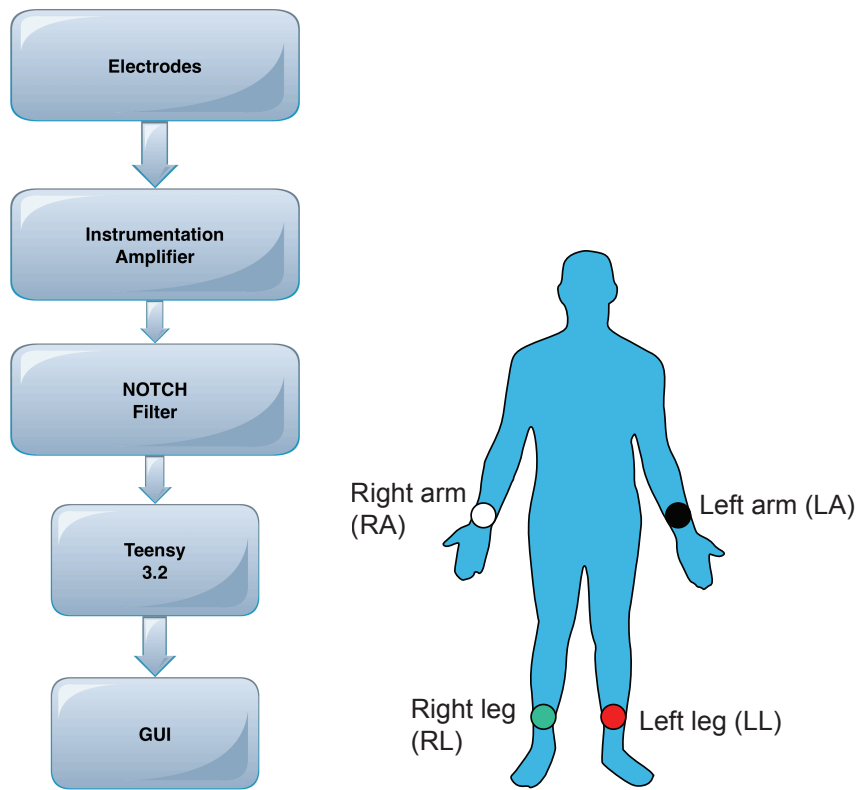
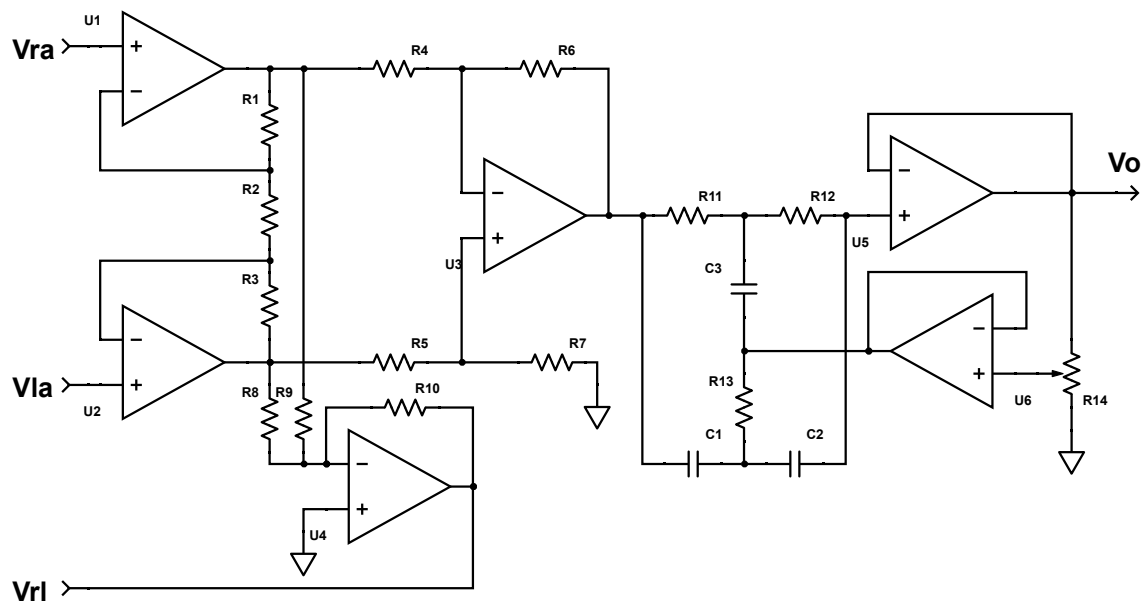

Figure 1. System diagram and electrode locations.
Figure 2. Instrumentation amplifier with driven right leg circuit and NOTCH filter.
ECG signals are collected from electrodes located on the right arm (RA), left arm (LA) and right leg (RL) of a subject (figure 1). The signals are amplified by an instrumentation amplifier and then filtered by a NOTCH filter (figure 2) before analog to digital conversion (ADC) using Teensy 3.2 development board. The ADC digitalized signals are then sent to the computer via serial port and displayed with a graphical user interface (GUI).
Electrodes are placed on the right arm (RA), left arm (LA) and right leg (RL) of the subject. They are connected through wires to the input of the instrumentation amplifier, Vra and Vla, and the output of the driven right leg circuit, Vrl (figure 1).